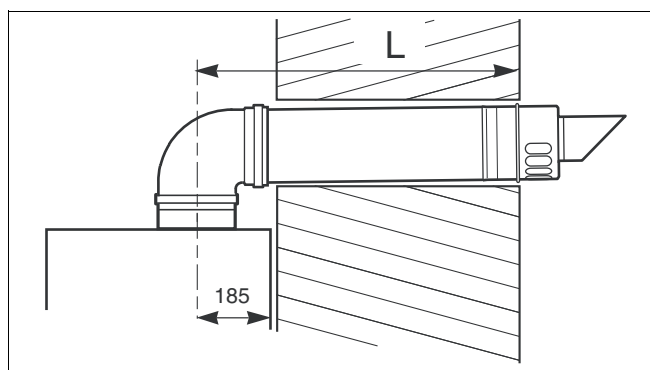

Fig. 14 Flue length - rear
- Measure the flue length L. Refer to figures 14 and 15.